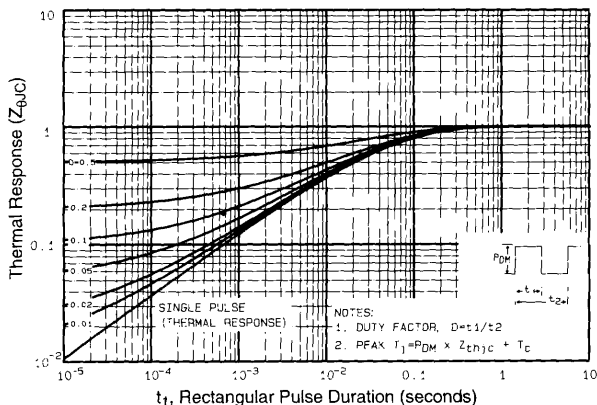

Fig 11. Maximum Effective Transient Thermal Impedance, Junction-to-Case
① Repetitive rating; pulse width limited by max. junction temperature (See Figure 11)
③ $I_{SD} \leq 17A$, $di/dt \leq 150A/\mu s$, $V_{DD} \leq V_{(BR)DSS}$, $T_J \leq 150^\circ C$